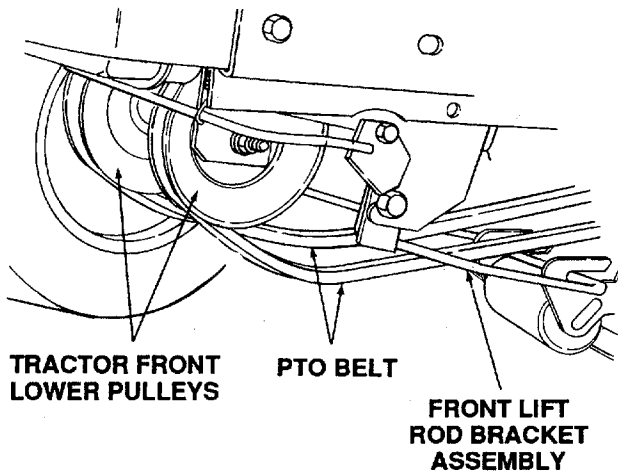

Figure 55
11. Twist the PTO belt 1/4 turn to engage the narrow sides of the belt into the grooves of the two tractor front-lower pulleys (Refer to Figure 55).